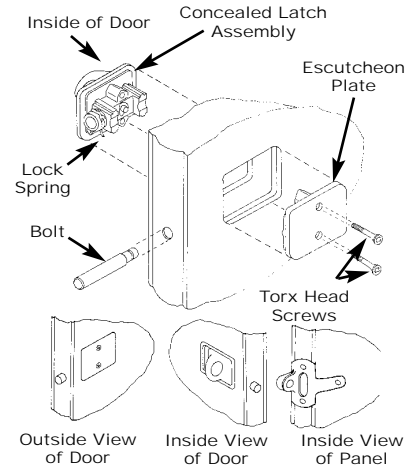

FIGURE 8
To ensure proper installation of the surface mounted slide latch and wraparound keeper, utilize the following instructions. Disregard step ⑩, Fig. 8 on the standard installation instructions.